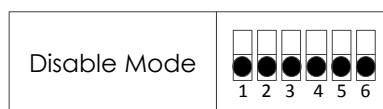

Figure 10
**Warning:** Before setting parameters with the handheld programmer, the DIP switch must be set to disabled mode, as shown in the figure 10.